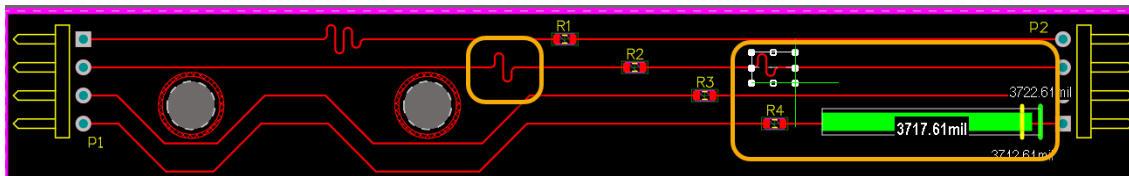

Figure 20. Series-Term xSignals with length tuning
46. Repeat the length tuning for the second xSignals, similar to what is shown in Figure 20. Add one part at the BUS signal and the other part at the OBUS signal.